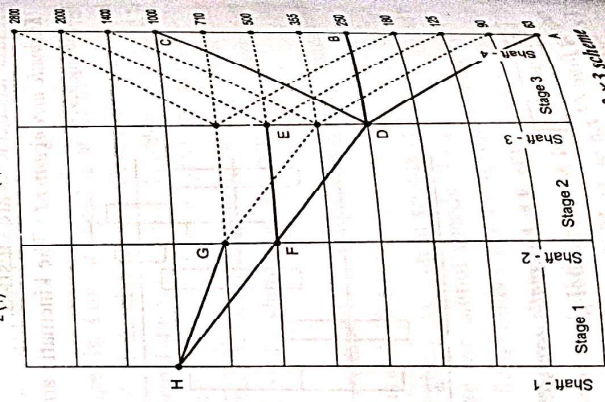

Fig. 9.10. Ray diagram for $2 \times 2 \times 3$ scheme
(i) $2 \times 2 \times 3$ scheme : Structural formula = 2 (1) 2 (2) 3 (4). Refer Fig.9.10.